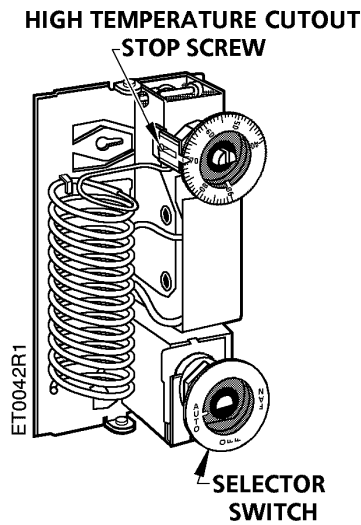

Figure 2. Interior View of the 134-1083.
- a. Turn the thermostat dial so the desired high temperature setting minus one degree is at the pointer. See Figure 2.
5. Set the desired temperature. Turn the dial to the pointer located at the nine o'clock position. See Figure 2.
6. Turn the selector switch so that desired AUTO, OFF, or FAN reads vertically. See Figure 2.